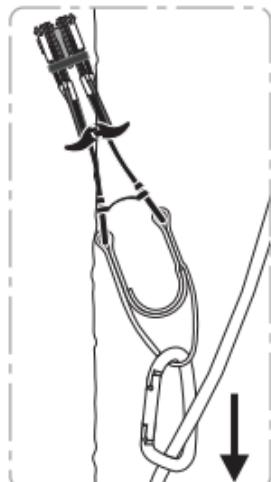

Figure 3
- Align the Totem Cam with the expected loading force (**see figure 3**).